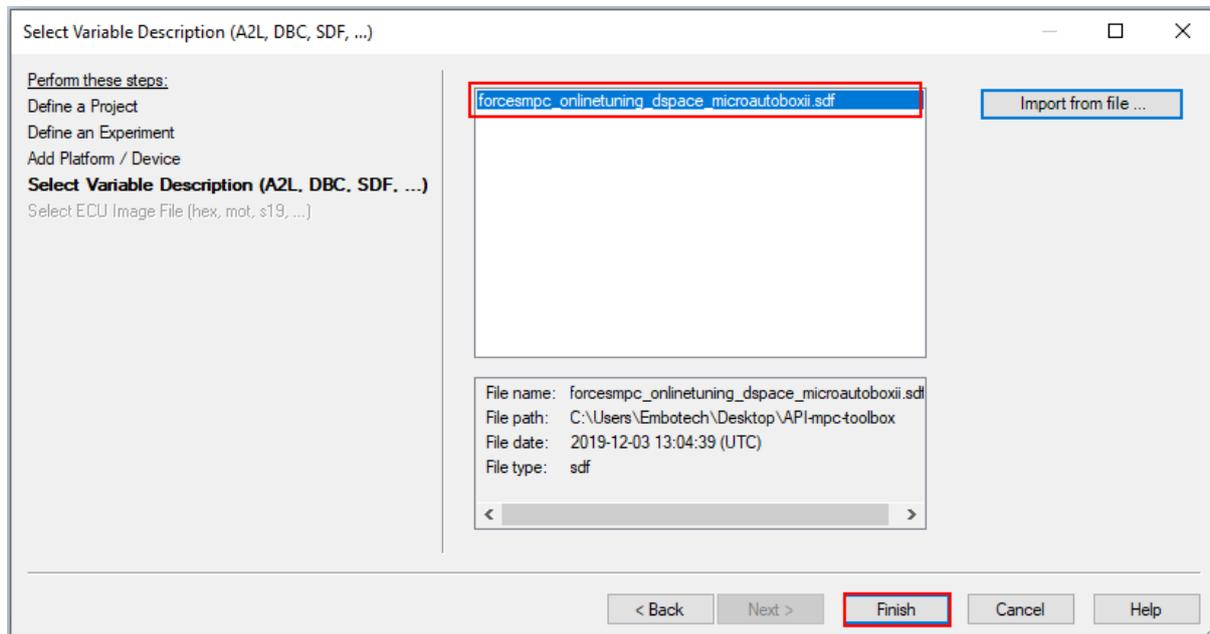

Figure 6.14: Click Finish to create the project
- Click Finish to create the project (see Figure 6.14).